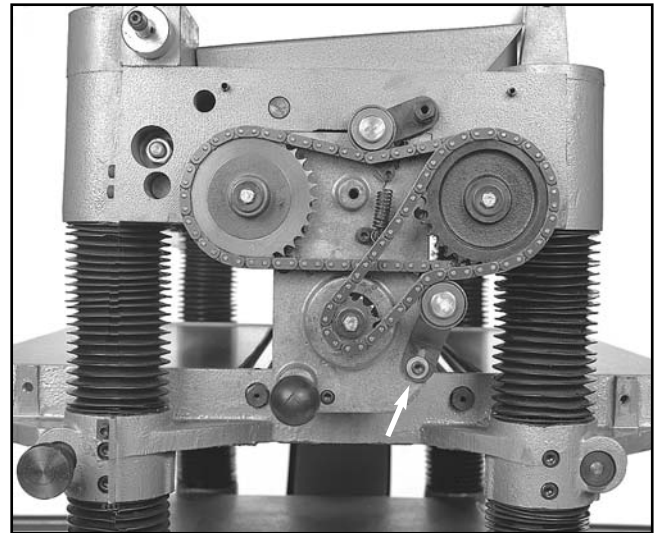

Figure 16. Static chain tensioner adjustment.
4. Loosen the cap screw that holds the static chain tensioner and swing the tensioner out of the way. **See Figure 16.**